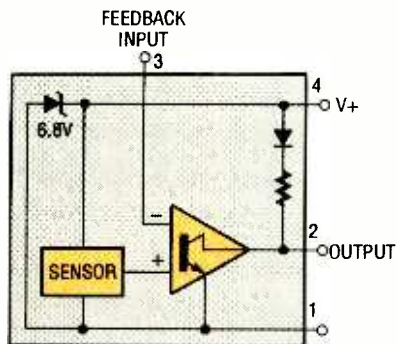

Fig. 2. There are only a few building blocks inside the LM3911: a voltage reference, a sensor, a comparator, and a pull-up network.
As mentioned, the heart of the Freeze Fighter is an LM3911 Temperature Controller IC. As you can see in Fig. 2, this clever IC incorporates a voltage reference, a temperature sensor, and an op-amp all in one 8-pin package. The voltage reference allows this chip to operate over a wide temperature range and also allows the unit work with accuracy over a wide power-supply range. The reference is a 6.8-volt active shunt regulator connected between pins 1 and 4 of the IC. In order to operate properly, this reference must be wired in series with an external current-limiting resistor. The selection of this resistor and the input voltage determines in part how much power is dissipated by the package. The application information on the LM3911 recommends values ranging from 3.5k to 12k depending on the application.
**Using the Calculator.** The best way to learn to use any new computer program is to dive right in and try it out on a real-world problem. In this case, we'll solve for voltage  $V_2$  in the circuit show in Fig. 2. This exercise will serve not only as an example of how to use the CMPX-CAL program, but also as a review of how complex numbers are used in AC analysis.